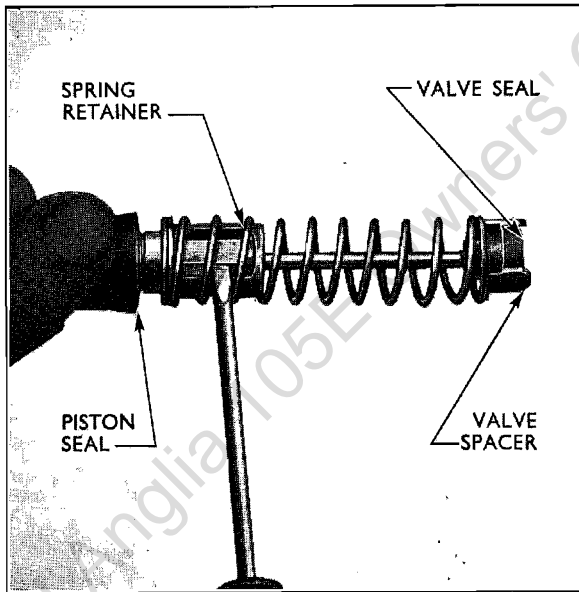

Fig. 5
3. The piston is held in the spring retainer by a tab which engages under a shoulder on the front of the piston. Carefully lift this tab, and remove the piston as shown in Fig. 5.